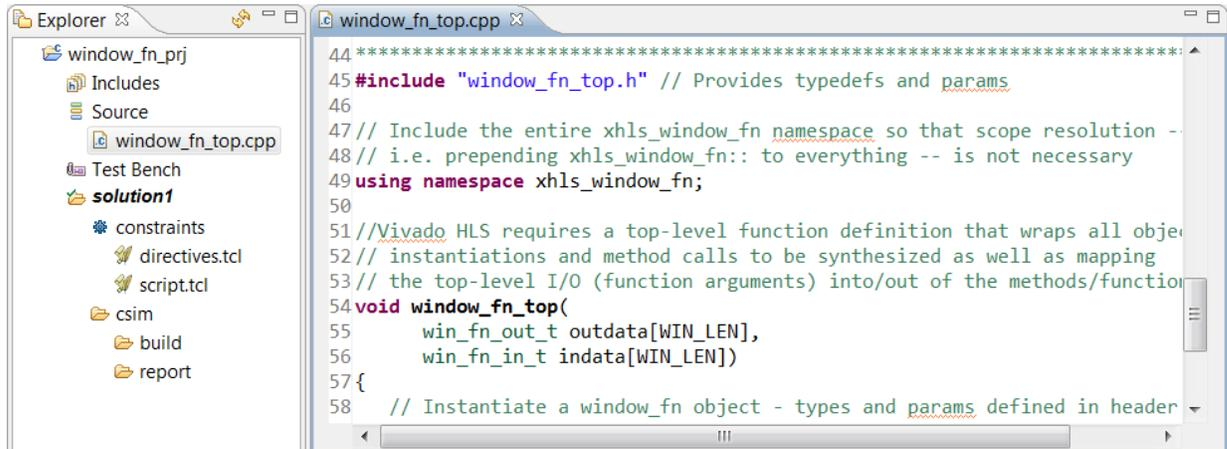

Figure 5-9: C Code for Arbitrary Precision Lab 2
- Open the **Source** folder in the Explorer pane and double-click **window\_fn\_top.cpp** to open the code as shown in Figure 5-9.